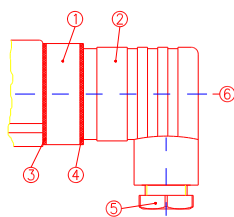

Fig. 6
Loosen the central screw (6) M3x35 and pull the cable socket DIN 43650 (2) off the appliance connector (1) (fig. 6).